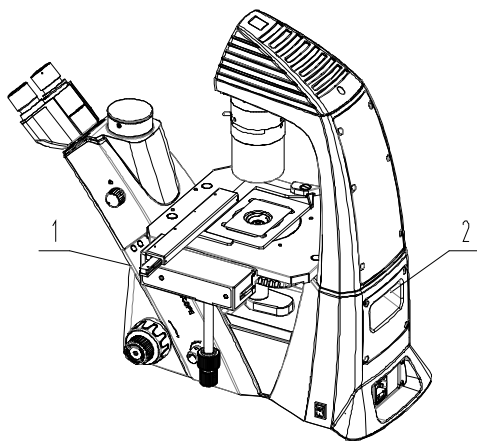

Fig.1 Carrying Diagram
- Following the **Fig.1** step to move the instrument, make sure the sample is taken away. Use one hand holding ① position ,the other hand holding ② position.
- d. Please follow Fig.1 to carry microscope.